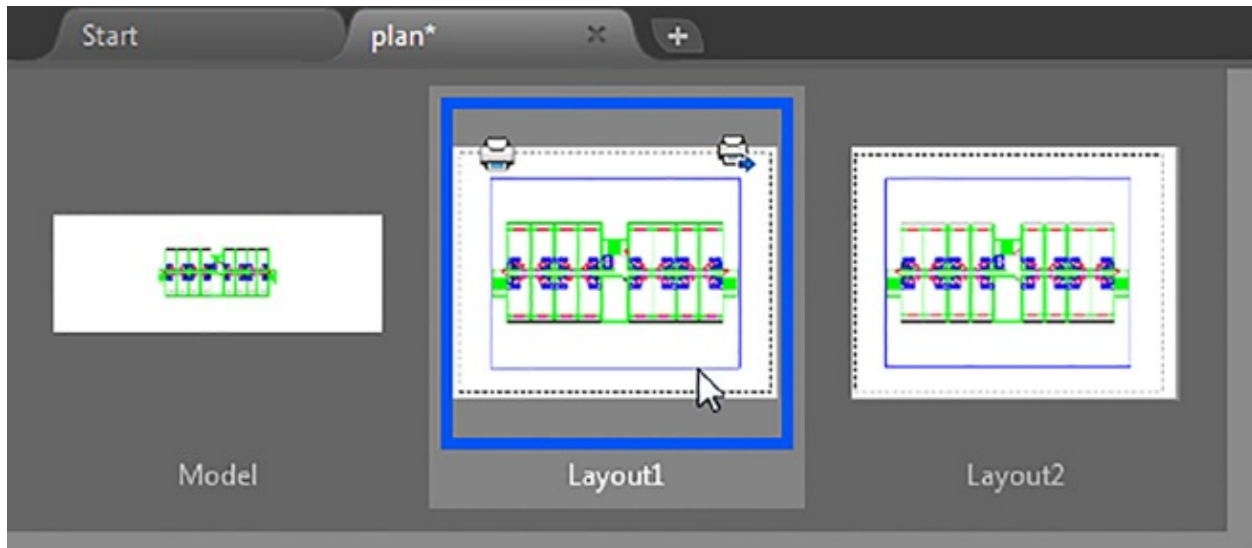

FIGURE 8.7 Choose the Layout1 panel.
1. Hover over the P1an file's Drawing tab at the top of the drawing area (see Figure 8.7), and then click the Layout1 preview panel.